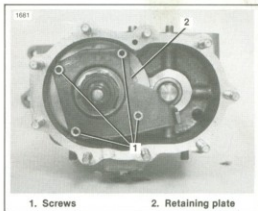

Figure 7-37. Mainshaft and Countershaft Retention — 1980 & Later
5. On 1980 & later models, see Figure 7-37. Remove the four screws (1) and retaining plate (2).
On 1980 & later models, see Figure 7-37. If the mainshaft is to be disassembled, leave the retainer assembly disassembled and proceed to the mainshaft DISASSEMBLY procedure. If the mainshaft is not being disassembled, install the retaining plate
On 1980 and later models, see Figure 7-37. Install the retaining plate (2) and four screws. Tighten screws to 7-9 ft-lbs torque.